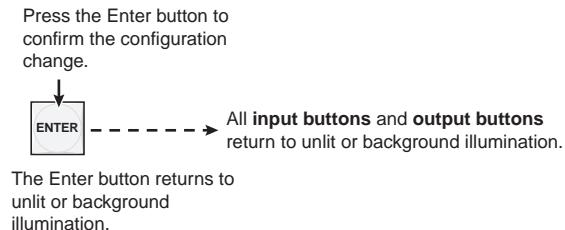

Figure 3-21 — Press the Enter button
5. Press and release the Enter button (figure 3-21).